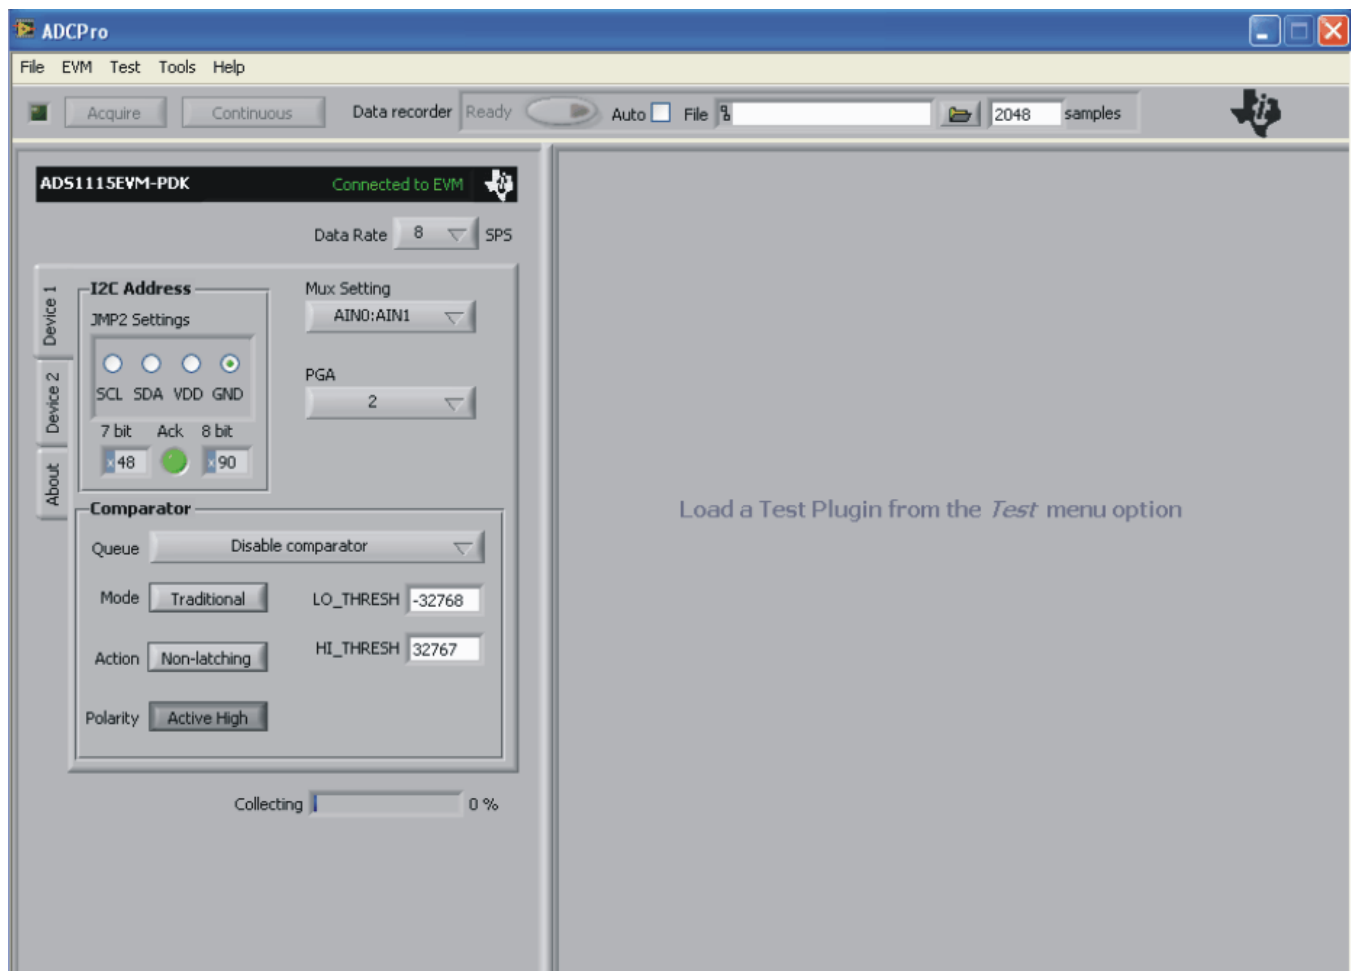

Figure 8. ADS1115EVM-PDK Plug-In Display Window
Step 2. Select *ADS1115EVM* from the EVM drop-down menu. The *ADS1115EVM-PDK* plug-in appears in the left pane, as Figure 8 shows.